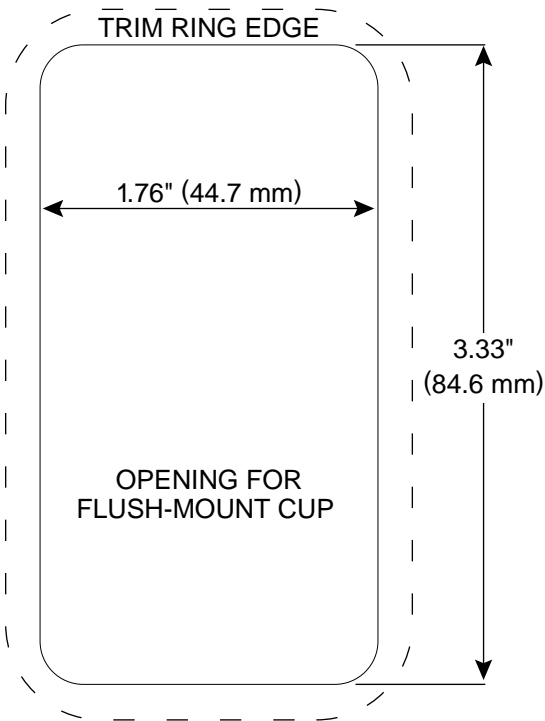

Figure 3. Use this template to flush-mount a Kappa EMIT-N MK II Tweeter.
1. At a chosen site, use the template shown in Figure 3 to create a hole in the panel for each flush-mount cup.